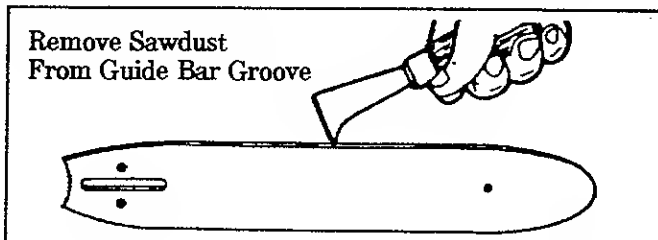

Figure 31
- c. Remove sawdust from the guide bar groove periodically with a putty knife or a wire. Figure 31.